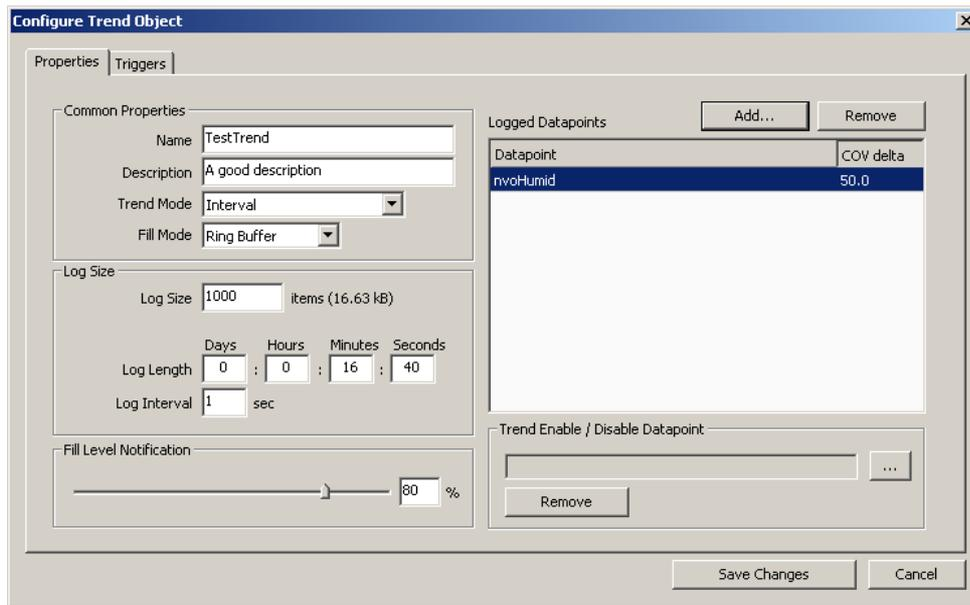

Figure 108: Basic Trend Object Configuration.
- In the **Create New Trend Object** dialog (shown in Figure 108) enter a name and optionally a description for the trend log object.